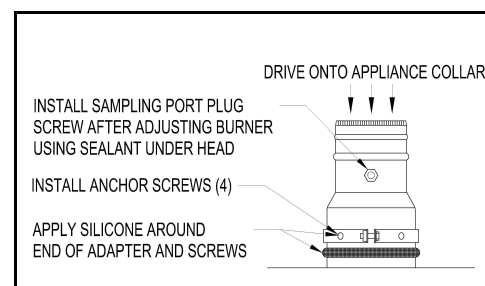

Figure 6
4. Using a mallet and block of wood, drive the adapter onto the appliance collar, using care to avoid damaging the appliance collar or the adapter (Figure 6).
6. Install the supplied self-drilling, self-tapping anchoring screws through the 4 holes in the appliance clamp into the appliance collar (Figure 6). No pilot hole is required.
7. Apply sealant to the end of the adapter and anchoring screws. (Figure 6).
8. After testing and burner adjustments have been made, apply sealant to the supplied 3/8" sampling port plug screw and install the screw in the sampling port (Figure 6).